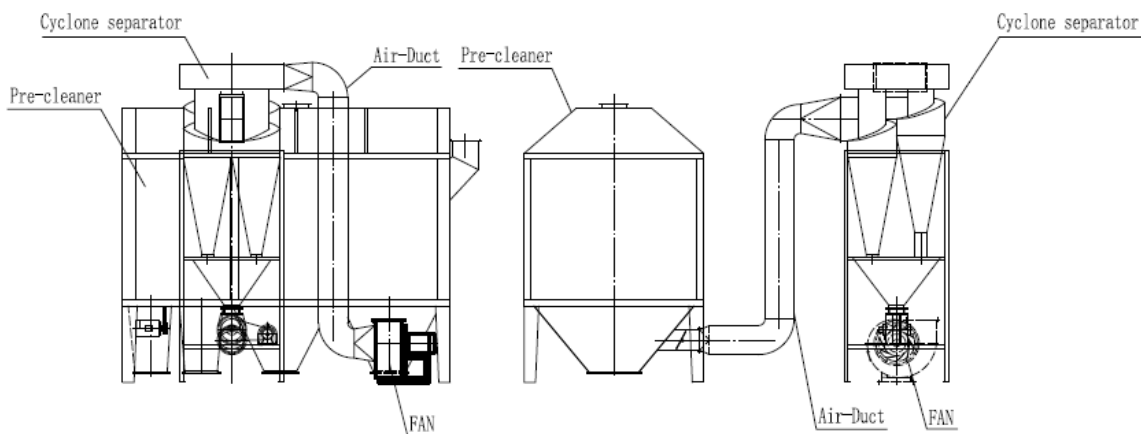

Figure 4
5. Figure 4 shows the 4 main components of the machine. They are pre-cleaner, fan, cyclone and air lock. Strictly follow the operational process as: